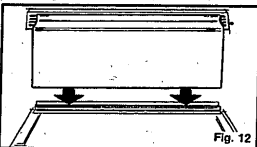

Fig. 12
3. Insert bottom of air duct cover into groove in gasket on cover shelf (Fig. 12).